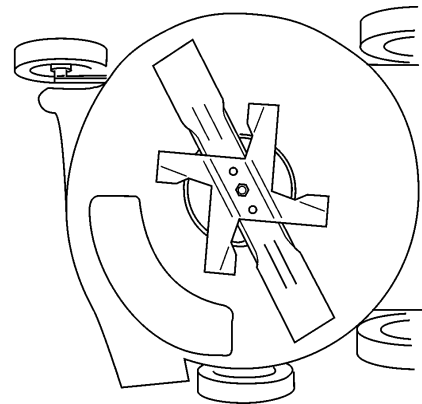

Figure 26
3. Tip mower onto right side (Fig. 26).